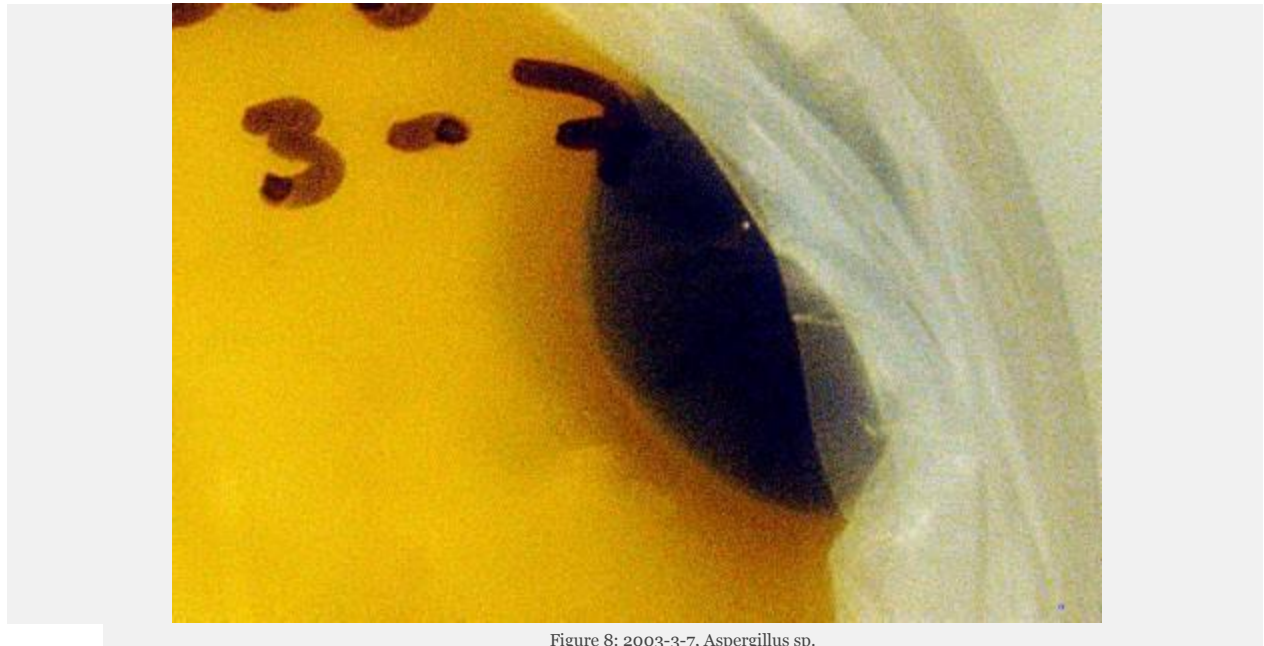
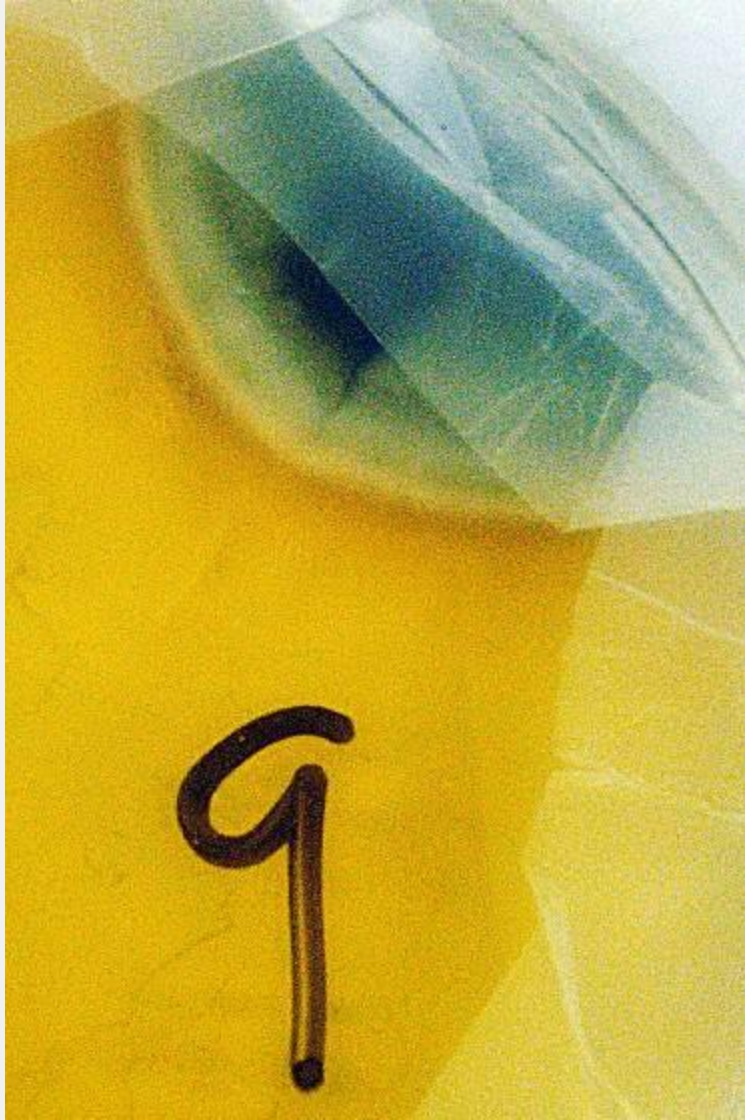

Figure 8: 2003-3-7, *Aspergillus* sp.
Figure 9: Sample number 9, *Aspergillus* sp.
*Aspergillus* sp. was found in sample 2003-3-7 (Figure 8), and samples numbered 8 and 9 (Figure 9). Some species of *Aspergillus* are known to produce hard sclerotia that can withstand inhospitable environmental conditions.